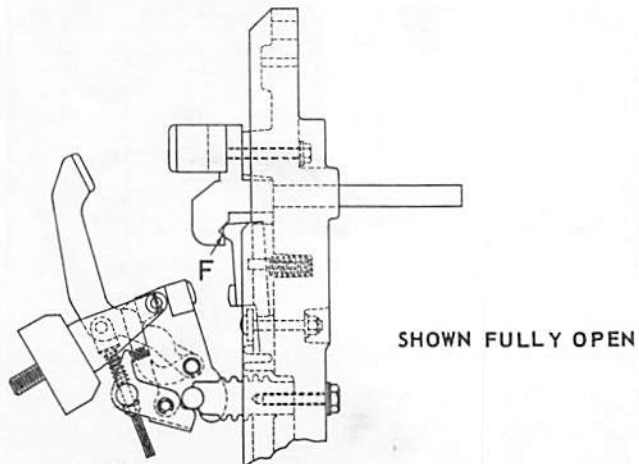

Figure 12
- Surfaces marked "F" should be lubricated by a thin film of "Conducto-Lube #240-200" before assembly. (Figure 12).